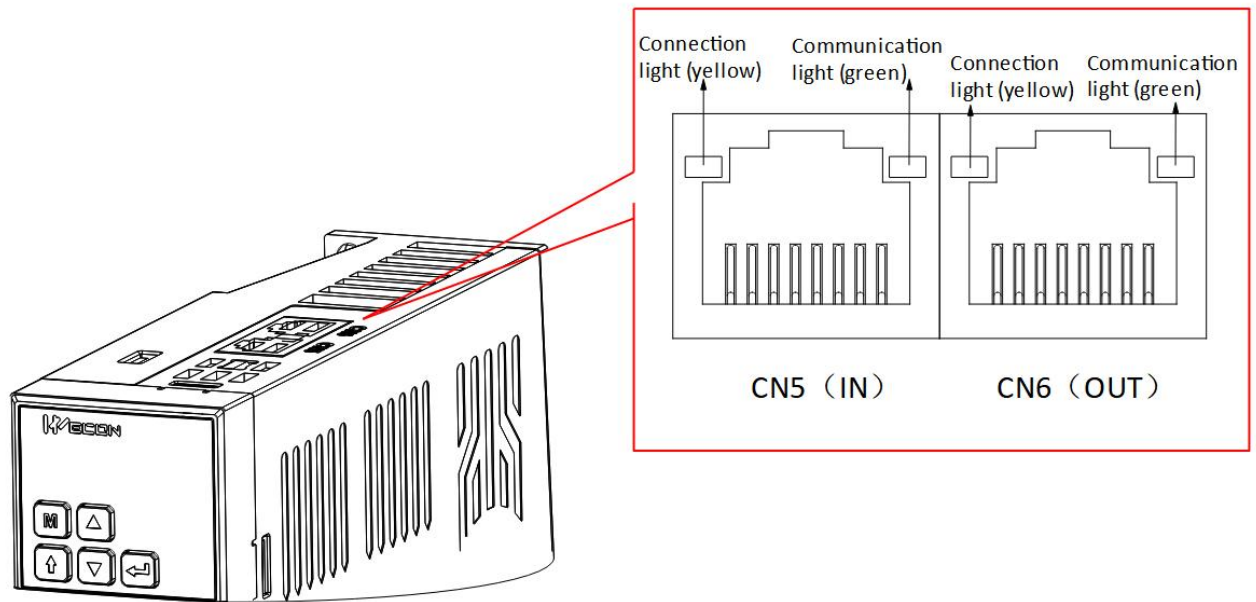

Figure 6-4 Communication indicator position
The communication indicator for the VD5L servo drive is located on the CN5 (IN), CN6 (OUT) sockets, as shown in Figure 6-4.